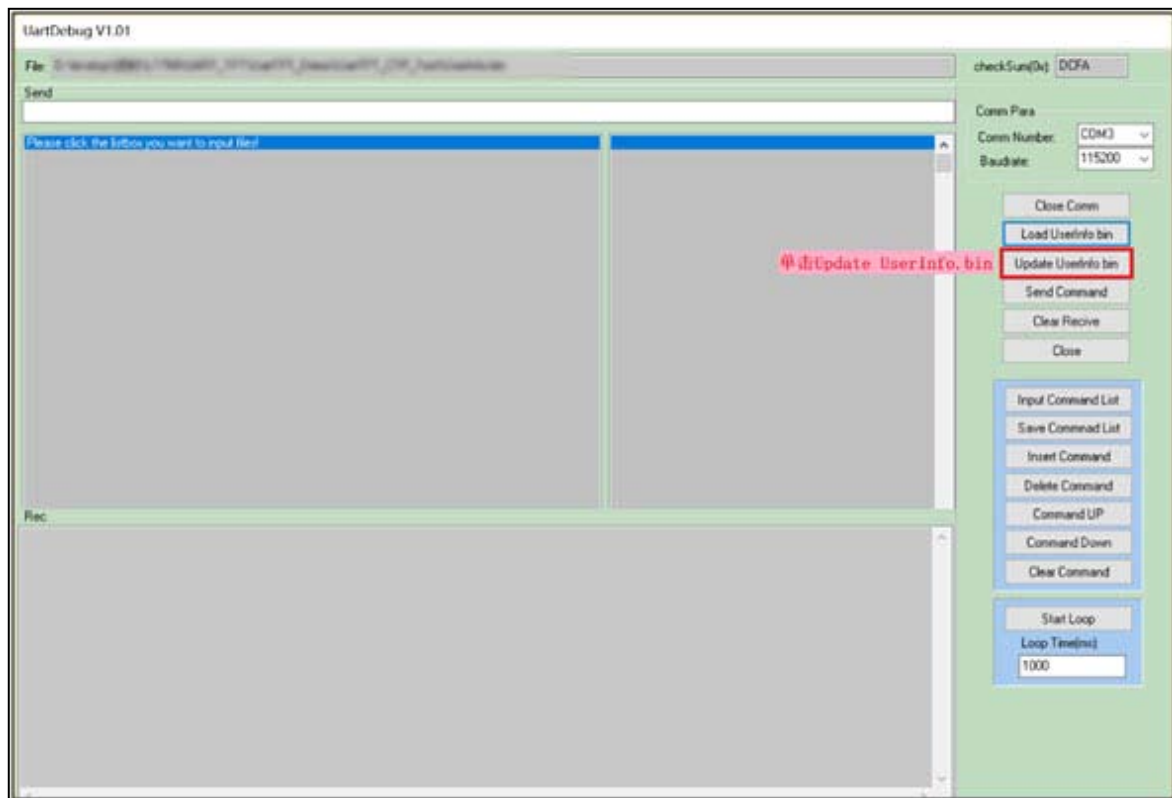
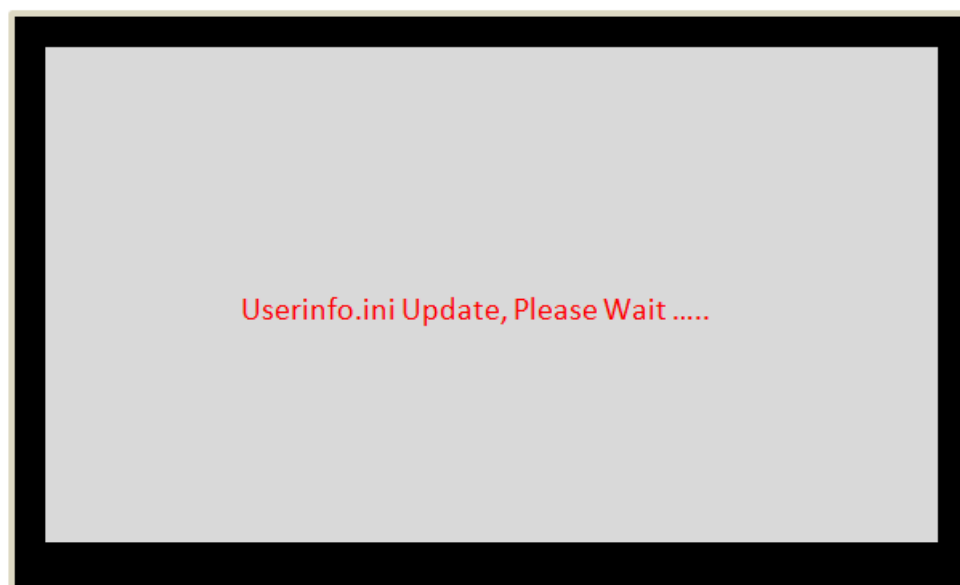

Figure 5-28: Update “Userinfo.Bin” File
Figure 5-29: “Userinfo.Bin” Updating
- 2) Once load completed, click "Update UserInfo.bin" to update the "UserInfo.bin", as Figure 5-28 shown; TFT panel will show as Figure 5-29 shown.